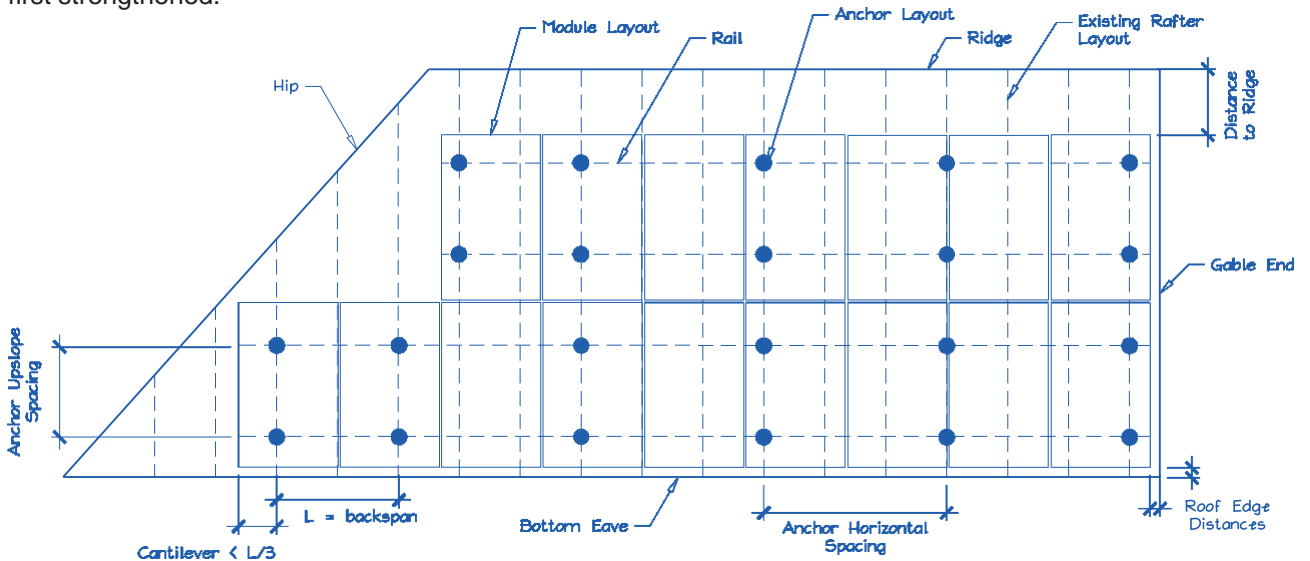

Figure 2. Sample Solar Panel Array and Anchor Layout Diagram (Roof Plan).
E. Is a roof plan of the module and anchor layout attached? (see Figure 2)
1. Anchors are also known as "stand-offs", "feet", "mounts" or "points of attachment". Horizontal anchor spacing is also known as "cross-slope" or "east-west" anchor spacing (see Figure 2).